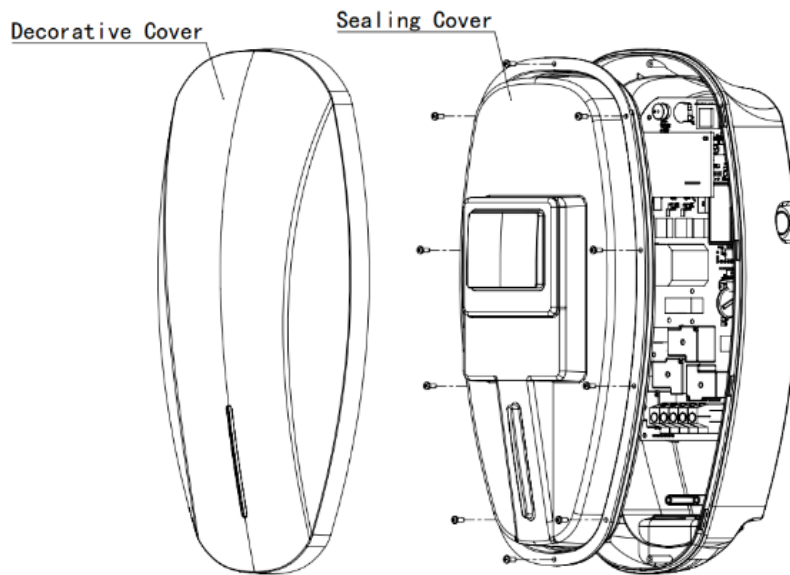

Figure 4.6 Restore the Front Covers of the Charger and Finish Installation
- 1) Close the sealing cover; **reinstall and fasten all screws** that were previously taken off from the sealing cover in **Part 4.1.2 step (4)**.
- 2) Restore the decorative cover of the charger. (see **Figure 4.6**).